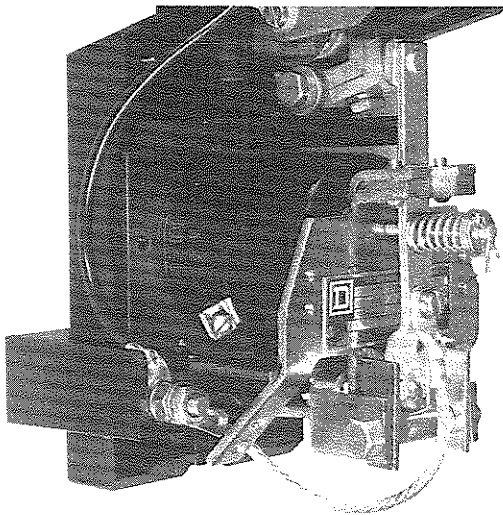

Figure 2
2. Check that the movable contact tip is securely fastened to the contact arm assembly (17) with the contact arm spring, cup washer and cotter pin and that the movable contact tip is properly seated in the slot in the contact arm assembly (Fig. 2).
3. Check that the stationary contact tip is properly seated against the stationary support of the contactor (Fig. 2).
- Disconnect the top end of the shunt by removing the pan head screw (22), lockwasher (23) and washer (24) Fig. 2.